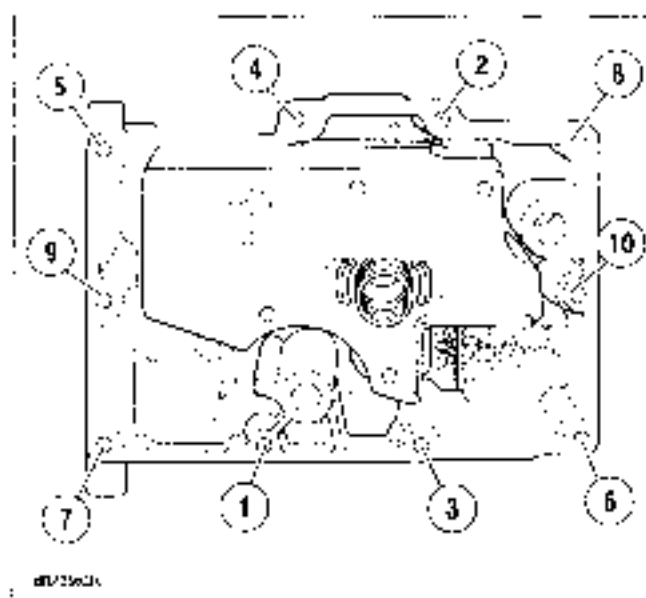

Figure 3-167. Oil Pan Torque Sequence
4. Position gasket and oil pan on transmission housing and install with ten screws (8). Tighten to 84-105 in-lbs (9.5-12.2 Nm) following sequence shown in Figure 3-167.